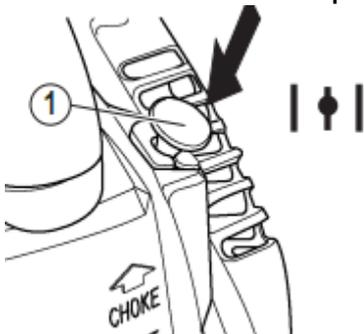

Fig.25
6) When you hear several strokes (the engine has ignited), press down the check lever to the open position:   . (Fig.25)